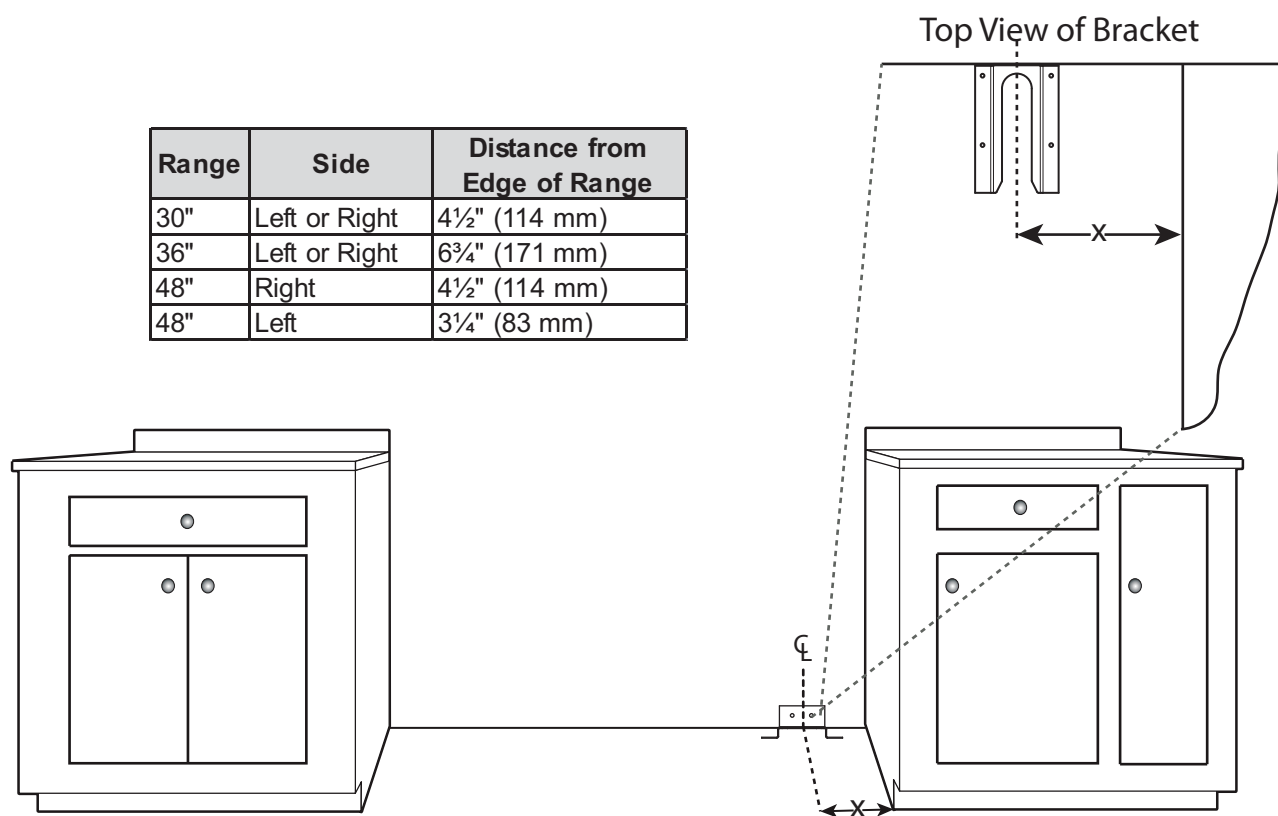
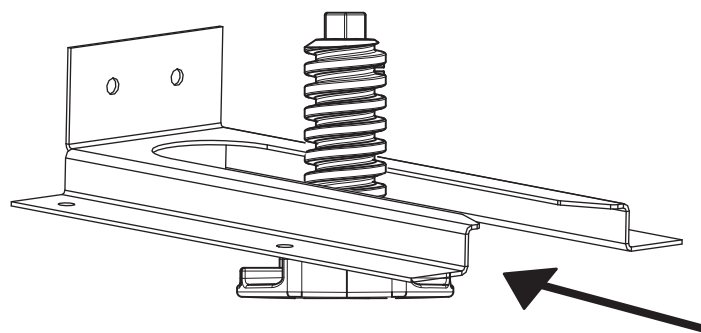

Figure 8: Placement of Anti-Tip Bracket
Figure 9: Anti-Tip Bracket
1. Place bracket on floor in position shown in *Figure 8*.
2. Secure to floor and wall stud using the (4) 1½" (38 mm) Phillips head screws provided.
3. Later, when the unit is installed, the adjustable leg will slide under the bracket, as shown in *Figure 9*.